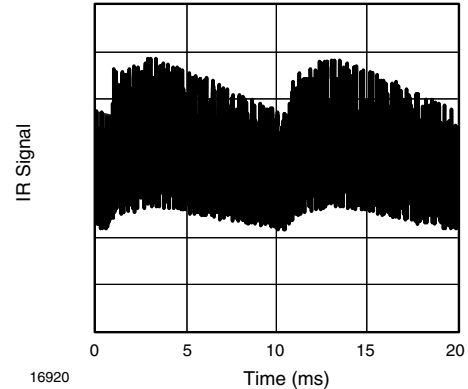
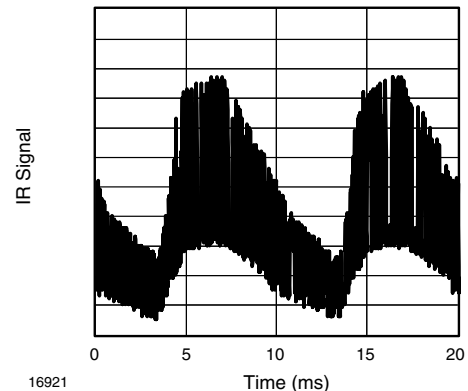

Fig. 13 - IR Disturbance from Fluorescent Lamp with Low Modulation
Fig. 14 - IR Disturbance from Fluorescent Lamp with High Modulation
- Strongly or weakly modulated patterns from fluorescent lamps with electronic ballasts (see Fig. 13 or Fig. 14).
| Suppression of interference from fluorescent lamps | Mild disturbance patterns are suppressed (example: signal pattern of Fig. 13) | Complex disturbance patterns are suppressed (example: signal pattern of Fig. 14) | Critical disturbance patterns are suppressed, e.g. highly dimmed LCDs |